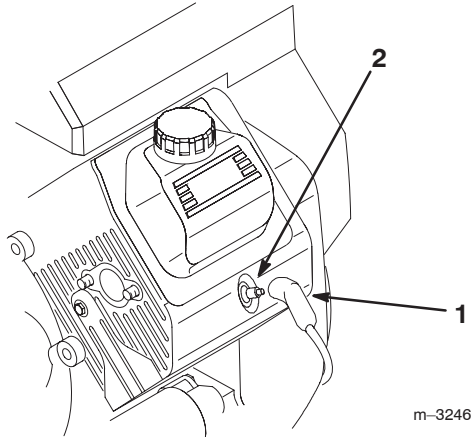

Figure 58
3. Pull the wires off the spark plugs (Fig. 58).
- Push the wires onto the spark plugs (Fig. 58).